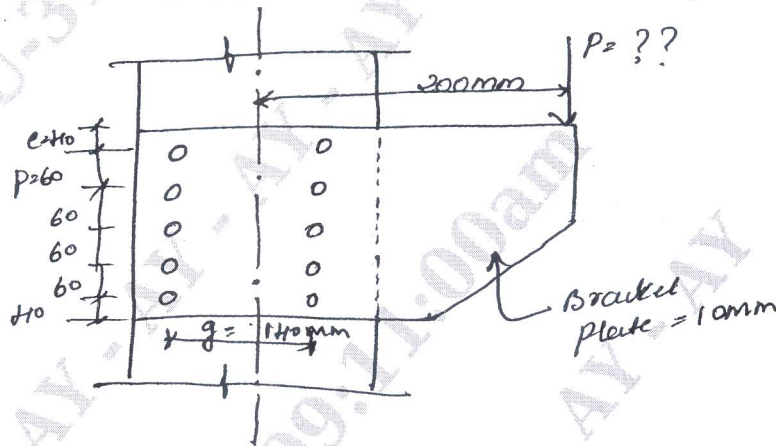

Fig. Q2
- 2 Determine the bracket load it can carry for the shown connection. Use M20 bolts with property class 4.6. [Refer Fig. Q2] (20 Marks)